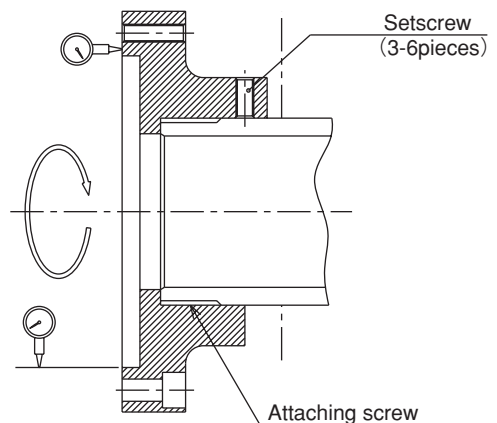

Fig. 12 Run-out measurement of the cylinder adapter
- Attach with the surface run-out of the cylinder adapter and the run-out of the spigot joint at 0.005 mm or less. (Fig. 12) Large run-out causes vibration and shortens the life of the cylinder significantly.
- Never fail to provide a setscrew to prevent loosening of the cylinder adapter. (Fig. 12)